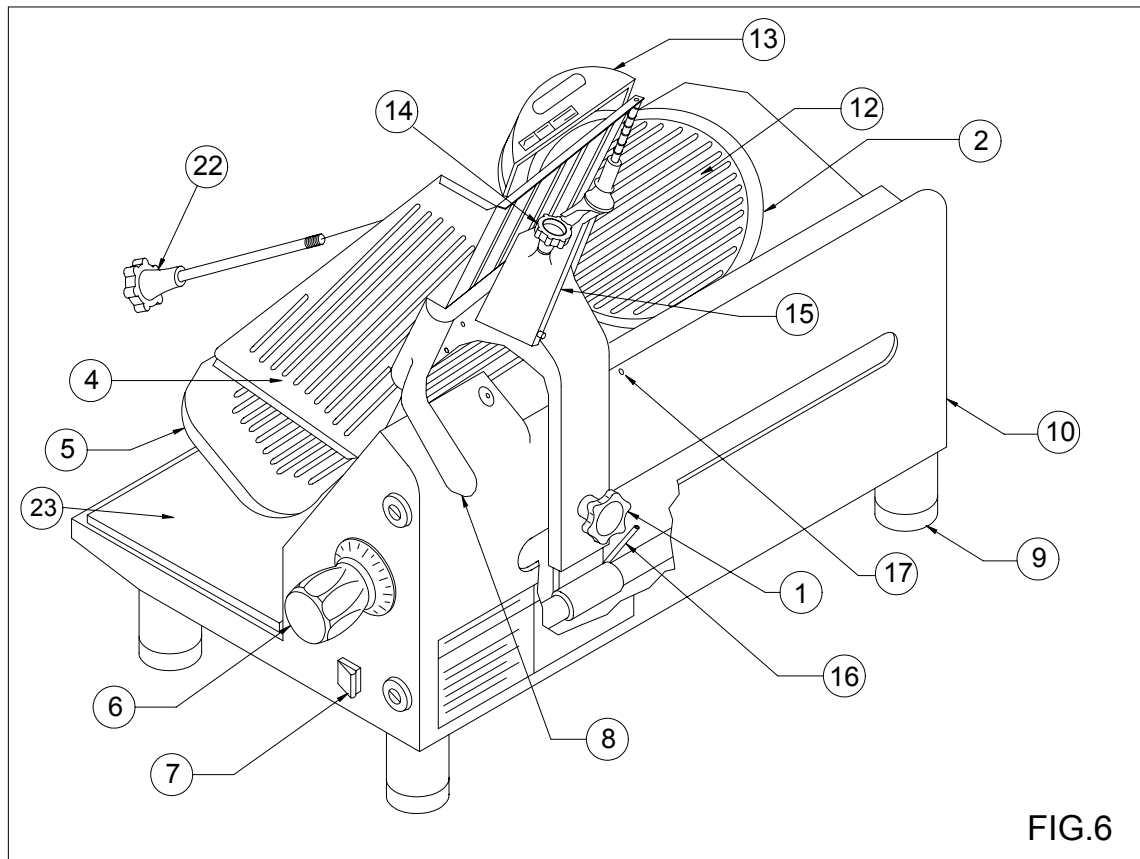

FIG.6
- 1 BASE (10) UNIT INCLUDING KNIFE (2), MOTOR AND SHARPENER (13).*
- 1 CARRIAGE ASSY. (4) WITH GRIP (15).
* **NOTE:** FOR REFERENCE NUMBERS REFER TO FIG. 6
- A.- TAKE OUT THE CARRIAGE (4), AND REMOVE THE FOAM PROTECTORS.
- 1.- **SLIDE RODS:** YOU MUST LUBRICATE THE SLICER AT LEAST EVERY 100 HOURS OF SERVICE OR 30 DAYS WITH LIGHT OIL. THE POINTS TO LUBRICATE ARE (16) AND (17) SHOWN IN FIG. 6.